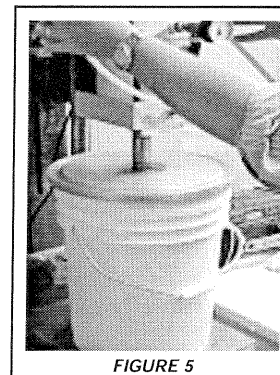

FIGURE 5
3. Activate the pneumatic closer so that it snaps the cover onto the pail leaving up to approximately 1/8" clearance between the lower edge of the cover and the top satellite ring on the pail body. (Fig. 5)